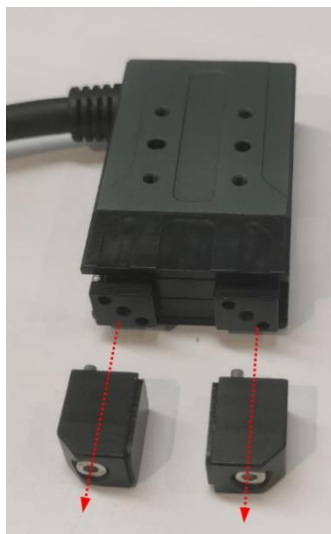

Figure 2.3 Remove the end of gripper
Step 1 Remove the end of the gripper, as shown in Figure 2.3 Remove the end of gripper.